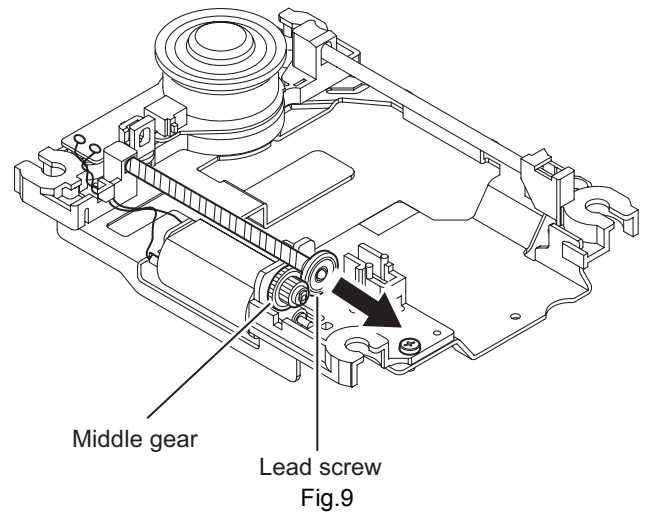

Fig.9
(3) Remove the read screw from traverse mechanism assembly. (See Fig.9)